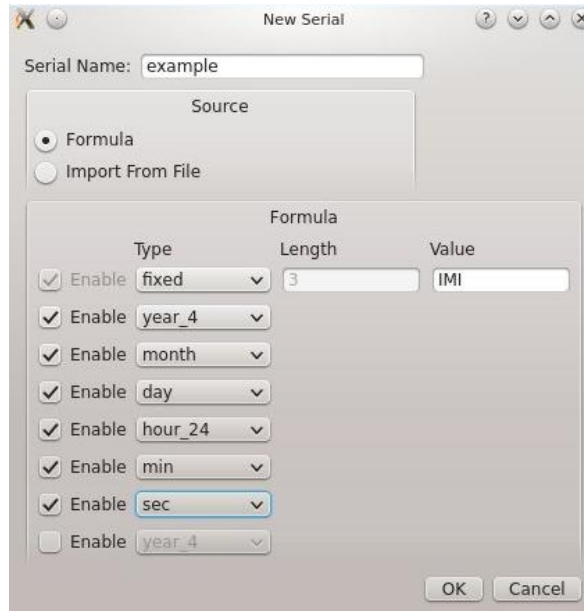

Figure 4-19 New Serial Generator
A sample formula is shown in Figure 4-19, with the different fields in the formula enabled.
5. Click OK to save this job. A snapshot of this job set up is as shown in Figure 4-19